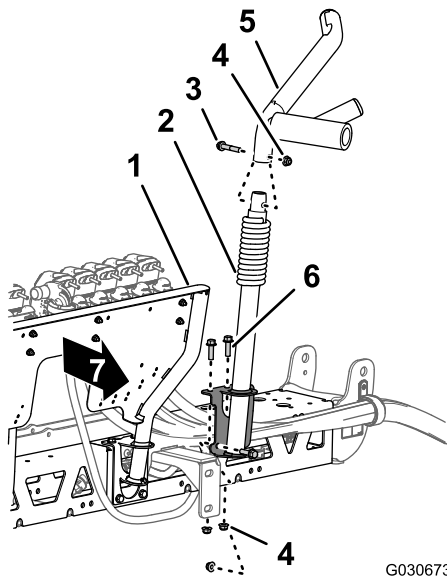

Figure 123
- Align the holes in the mounting bracket of the new left lower boom cradle with the holes at the top and front sides (to the left of the manifold mount) of the new center boom section (Figure 123).
- At the left lower cradle, assemble the upper cradle that you removed in step 1 in Removing the Boom Cradle \(page 36\) onto the lower cradle (Figure 123) with the flange-head bolt (3/8 x 2 inches) and flange locknut (3/8 inch).